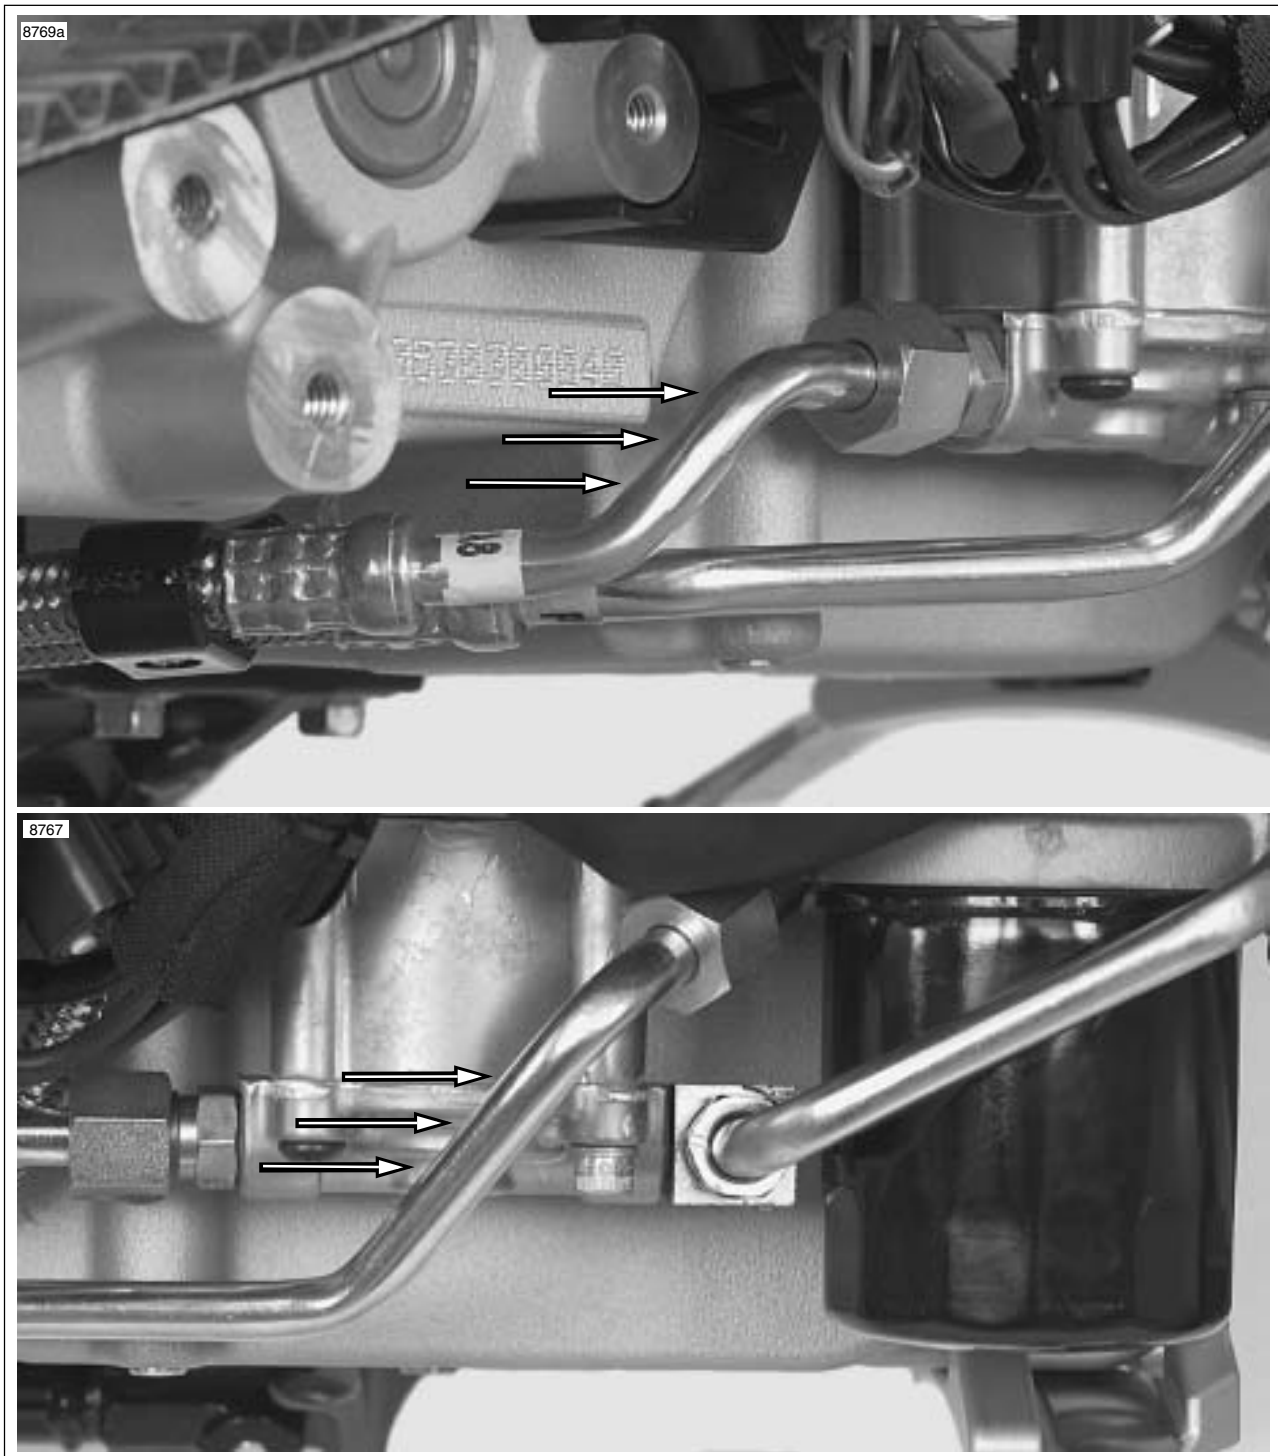

Figure 3-49. Approximate Seven O’Clock Orientation of Oil Feed Line and Oil Return Line at the Oil Pump
24. See Figure 3-49. The feed oil line at the rear of the of the oil pump should be tightened to 27-29 ft-lbs (36.6-39.3 Nm). When the oil line has been properly torqued, the orientation of the line should be approximately 7 o’clock.